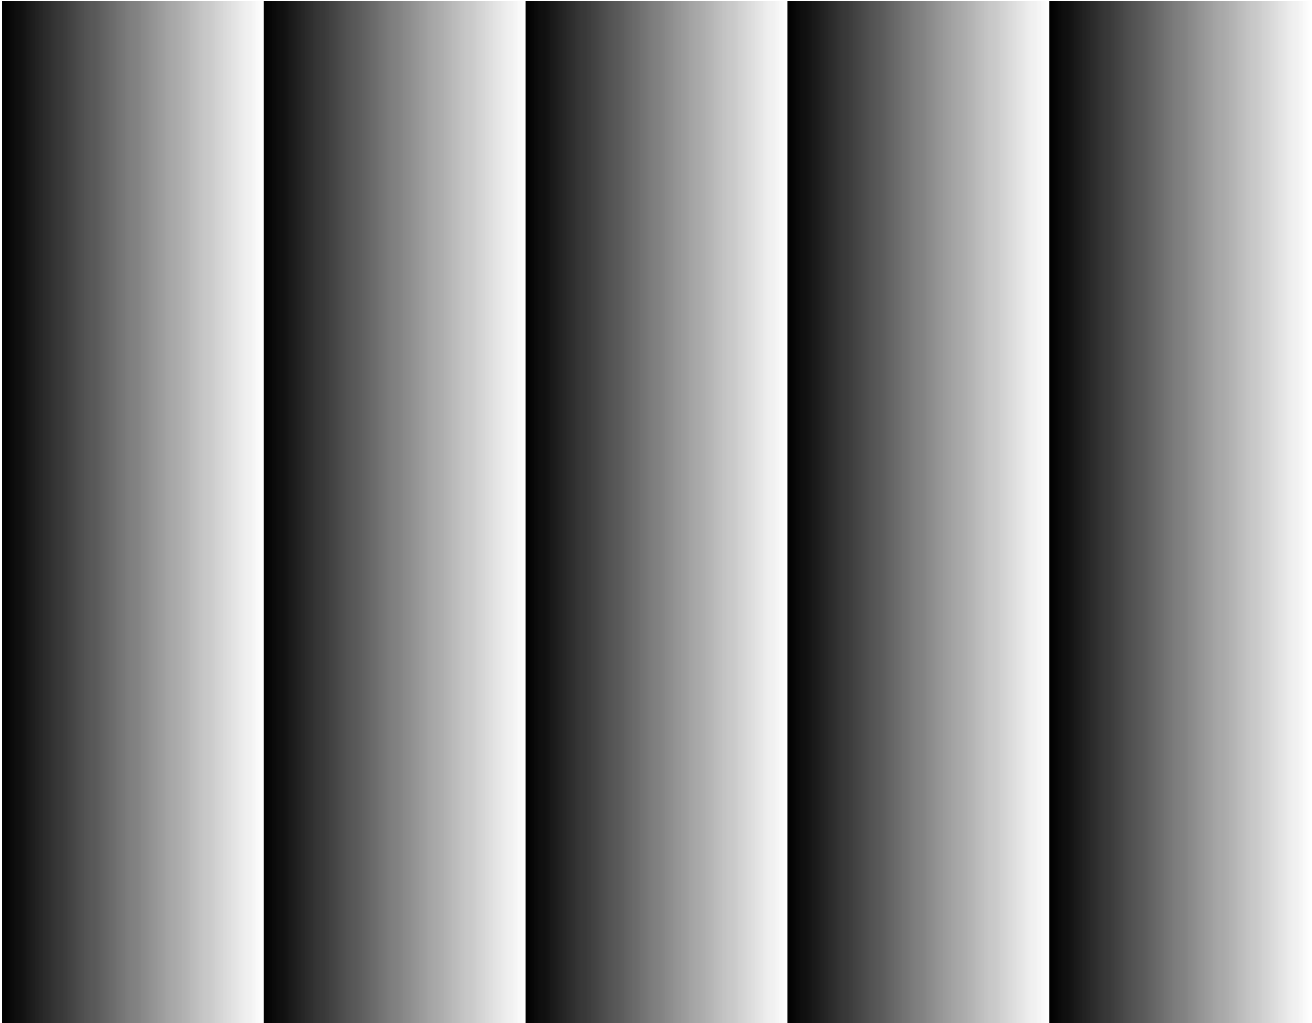

Figure 15 : Horizontal pattern
1. Horizontal ramp – a gray scale horizontal gradient as shown in Figure 15.